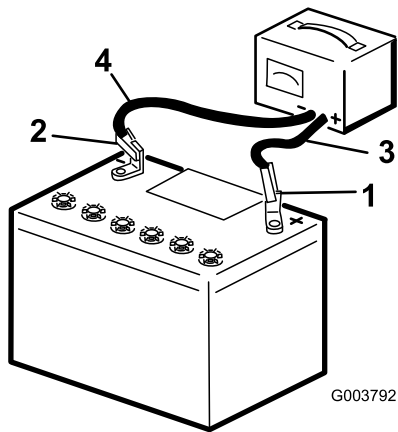

Figure 42
3. Charge the battery for 10 to 15 minutes at 25 to 30 A or 30 minutes at 4 to 6 A (Figure 42). Do not overcharge the battery.
4. When the battery is fully charged, unplug the charger from the electrical outlet, then disconnect the charger leads from the battery posts (Figure 42).